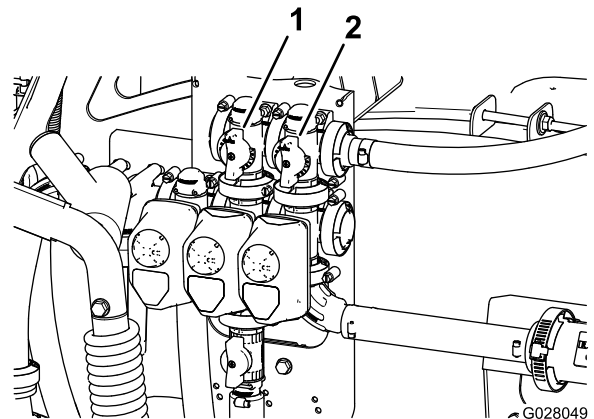

Figure 109
11. Adjust the agitation-bypass valve (Figure 109) on the backside of the agitation valve until the pressure reading on the gauge is 6.9 bar (100 psi).
9. Adjust the master-boom-bypass handle to control the amount of agitation occurring in the tank (Figure 109).